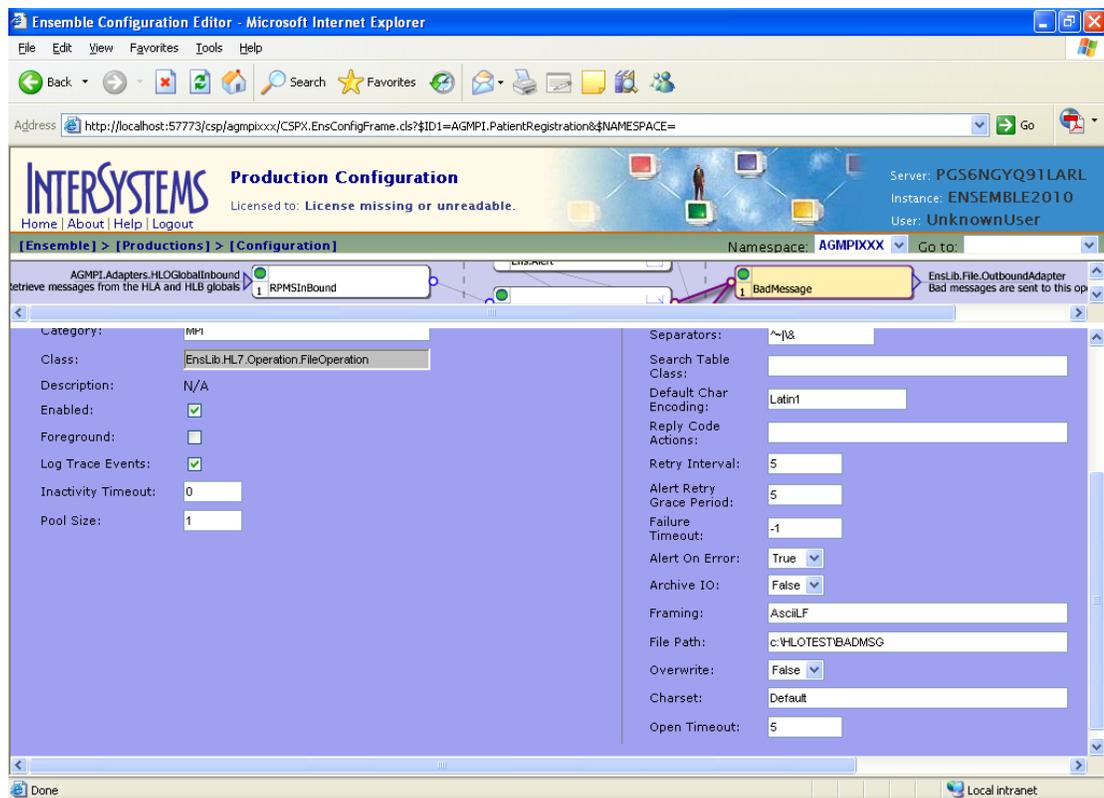

Figure 5-24: **BadMessage** configuration
1. Click **BadMessage** in the top pane of the **Ensemble Configuration** page to display the BadMessage configuration settings in the bottom pane, as shown in Figure 5-24.